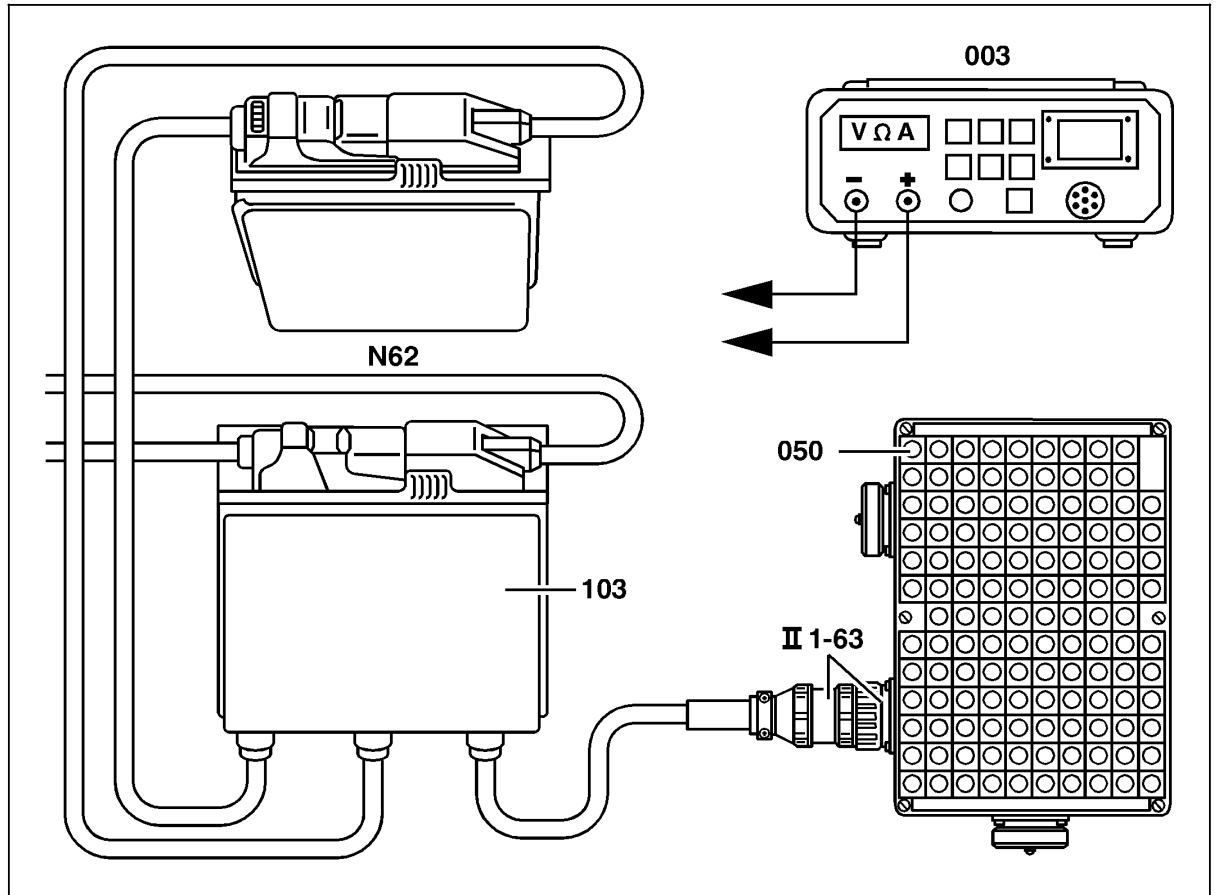

Figure 1
4. Connect socket box and test cable according to connection diagram (Figure 1)